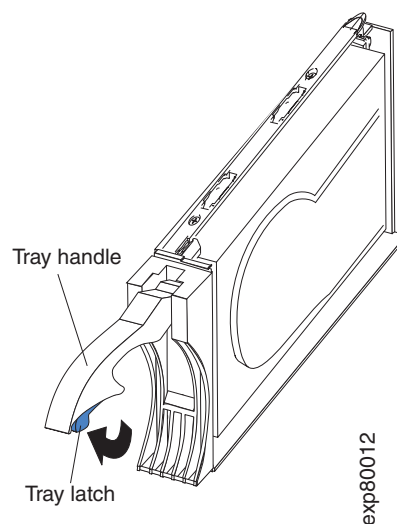

Figure 45. Drive CRU handle
- b. Pull the handle on the tray out so that it is in the open position, as shown in Figure 45.
- a. Release the latch on the drive CRU by pressing on the inside of the bottom of the tray handle, as shown by the arrow in Figure 45 on page 81.